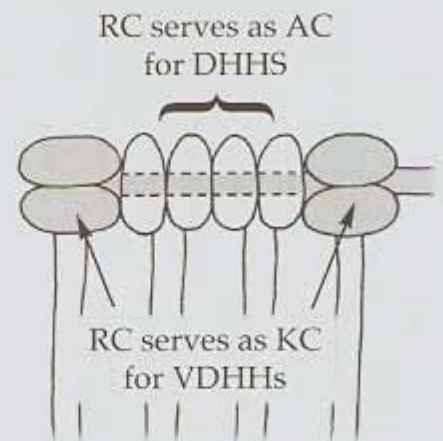

Fig. 7
• **Switching from DHHs to VDHHs and vice versa** - When you get to Row 6, Cd # 5, the pattern calls for you to switch from a **VDHH** to a **DHH**. The **RC**, which served as the **Knotting Cord** for Cd # 4 becomes the **Anchor Cord** for the **DHHs** of Cds #5 & 6. It then reverts back to being the **KC** for the following **VDHH** on Cd #7 (see Figure 7).